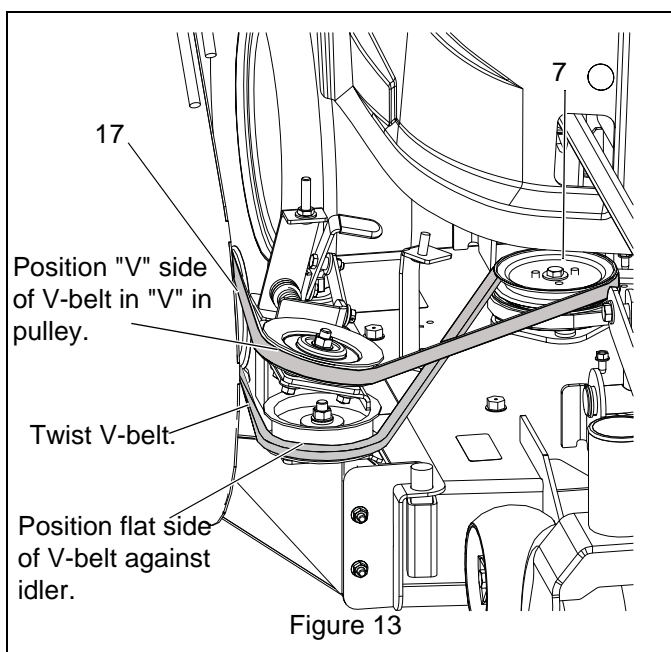

Figure 13
3. Route belt (item 17) over spindle sheave (item 7), idler pulleys and blower drive pulley. See Figure 13 for belt routing.